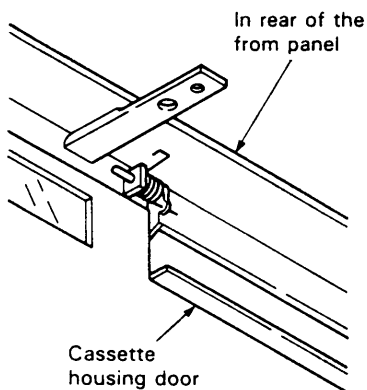

Fig. 1-1-10
2. Refer to Fig. 1-1-10, with a lift of cassette housing door by hand, bend center of the cassette housing door toward you, then pull out the left end from the cassette housing.
3. Refer to Fig. 1-1-10 and use care regarding the torsion spring, then pull out the right end of the cassette housing door to move it.